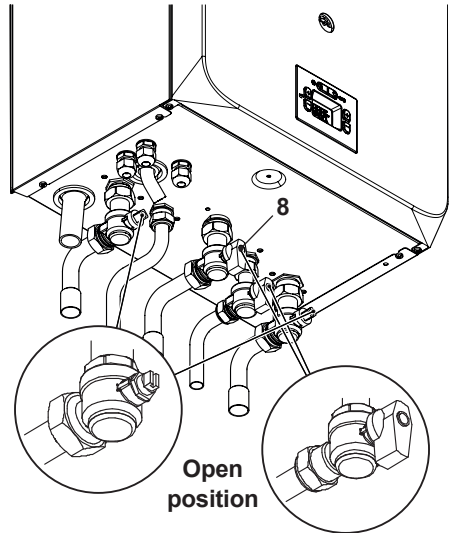

Fig. 7.1
- Open the gas cock 8 (Fig. 7.1) on the appliance and check the gas connector on the appliance for leaks.
- Open the valves located in the lower part of the boiler (Fig. 7.1).